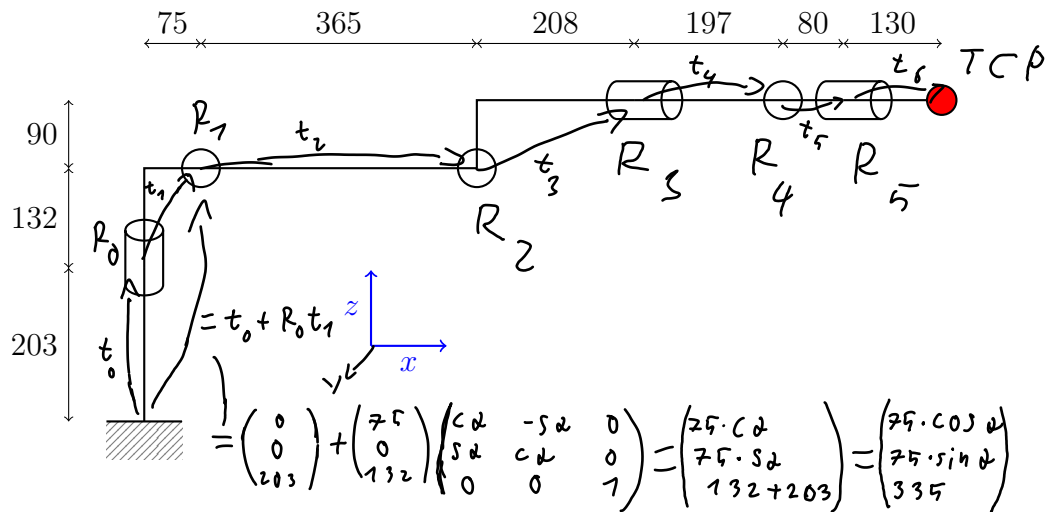

Figure 3: Kinematic chain, lengths are in mm
Figure 2a shows the small industrial robot KR 5 sixx R850. Figure 3 shows its kinematic structure in the initial position, e.g. all joint angles are set to zero ($q_i = 0$).
- Express the position of the second joint depending on the angle of rotation of the first joint q_0 . Read figure 3 to obtain the segment lengths. Figure 2b shows a similar robot. Use it as a reference for the direction of rotation.